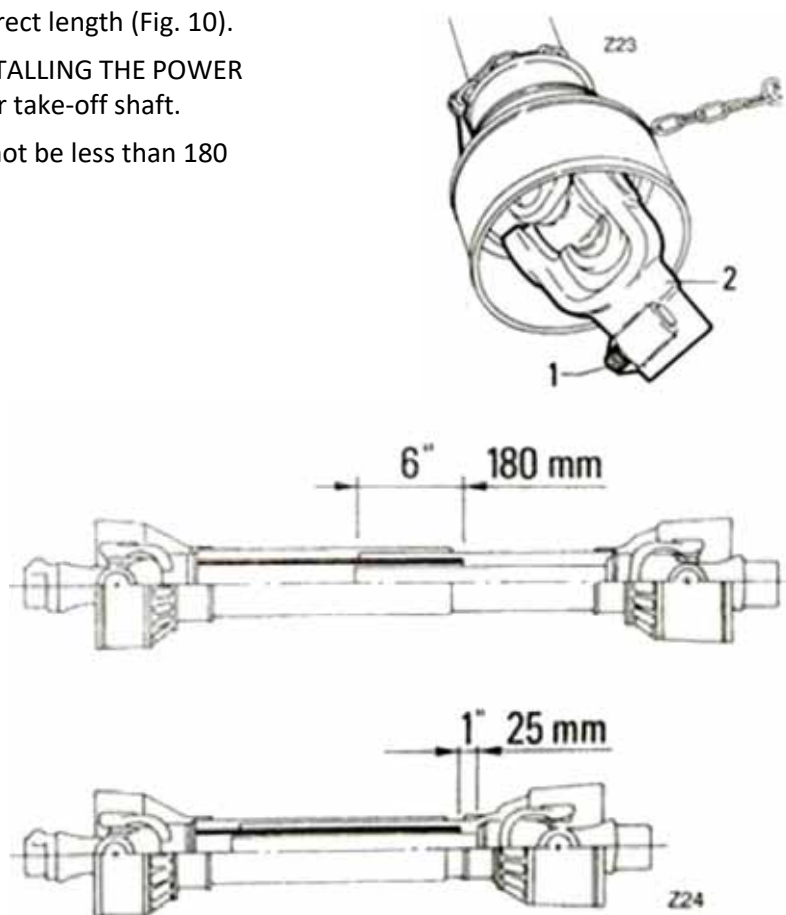

Figure 10
- Check whether the drive shaft is at the correct length (Fig. 10).